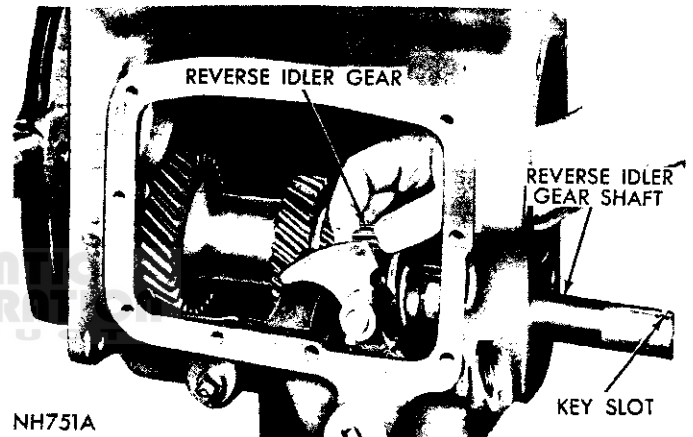
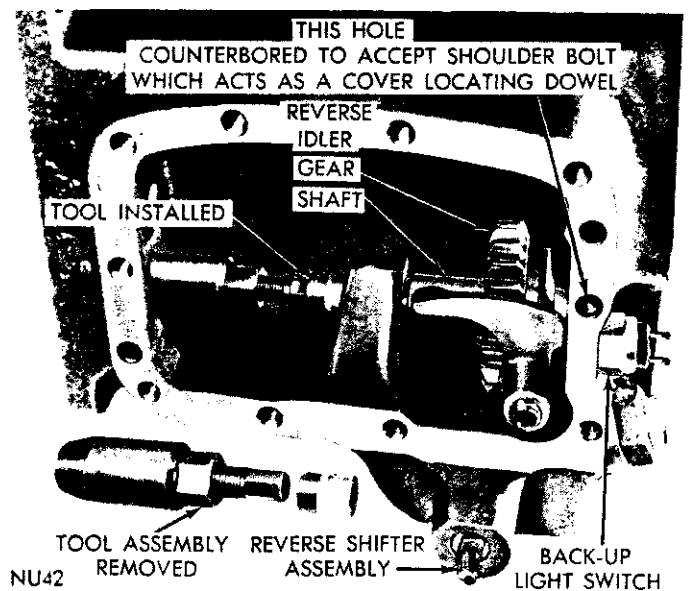
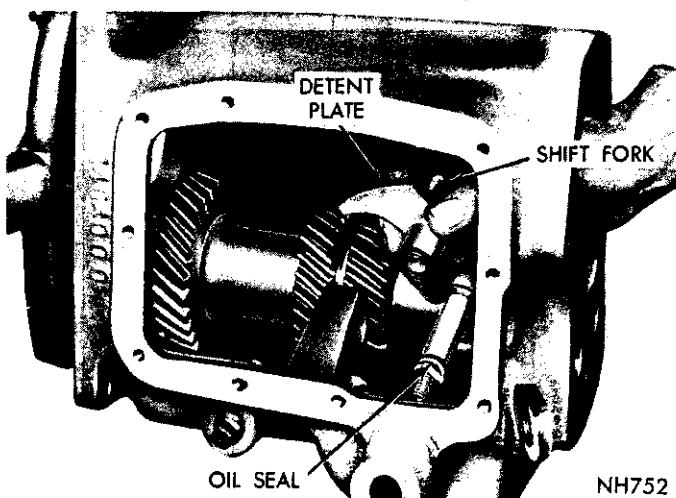

Fig. 31—Removing or Installing Reverse Idler Gear
Fig. 32—Removing Reverse Idler Gear Shaft (A-833)
Fig. 33—Removing or Installing Reverse Shift Fork and Lever
(2) The reverse Idler gear shaft is a very tight fit in the case (Fig. 31). To remove, place a 7/16 socket (1/4 or 3/8 inch drive) on end of C-3638 Power Steering "Worm Shaft Seal Remover" or C-3642 "Pump Shaft Seal Remover" (Fig. 32).
age the case bore, then carefully push reverse gear-shift lever shaft inward and remove it from case (Fig. 33). Lift out detent ball from bottom of case. Remove shift fork from shaft and detent plate.
(1) Install a new oil seal "O" ring on reverse gear-shift lever shaft. Coat lever shaft with Multi-purpose grease, then carefully install lever shaft into bore in the case (Fig. 33).
(2) Install reverse detent spring retainer and gasket. Torque to 50 foot-pounds. Insert ball and spring. Install plug and gasket. Torque to 24 foot-pounds.
(3) Place reverse Idler gearshaft in position in end of case and drive it in far enough to position reverse Idler gear on protruding end of shaft with shift slot toward rear (Fig. 31). At same time, engage slot with reverse shift fork.
(4) With reverse Idler gear correctly positioned, drive reverse gear shaft into case far enough to install woodruff key. Drive in shaft, flush with end of case (Fig. 31).
(5) Install back-up light and gasket. Torque to 15 foot-pounds.
(4) Eight of the shift housing retaining bolts are shoulder bolts for accurately locating the mechanism on the transmission. One bolt shoulder is longer and acts as a dowel, passing through the cover and into the transmission case at center of rear flange (Fig. 32). Two bolts are standard, located at lower rear of cover. Tighten all bolts evenly to 15 foot-pounds.